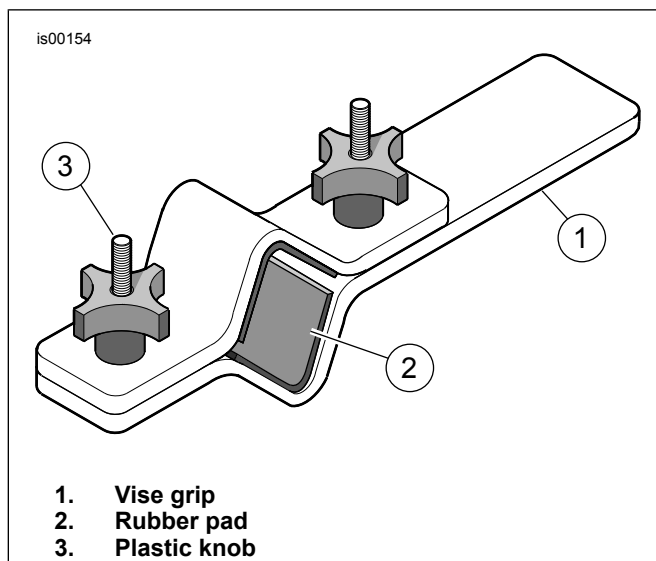

Figure 6. Fork Tube Holder (HD-41177)
1. See Figure 6. Install fork in Fork Tube Holder (HD-41177) as follows:
- a. Clamp end of tool (1) in vise in a horizontal position.